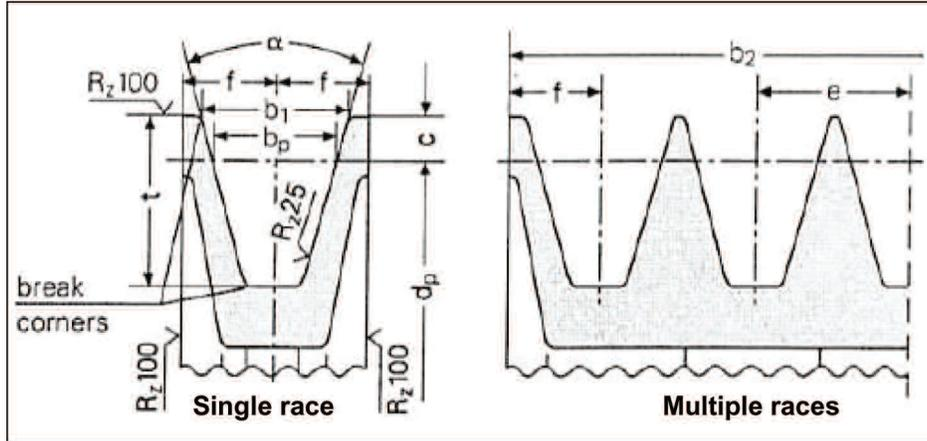

fig. 9
- a) Use pulleys with race dimensions prescribed / recommended by the belt manufacturer. Should no indications be supplied, please see **fig. 9** and the table in **fig. 10**.
- e) Follow the belt tension directions as indicated in **fig. 9**; for different needs, please contact the **Customer Service Department**.